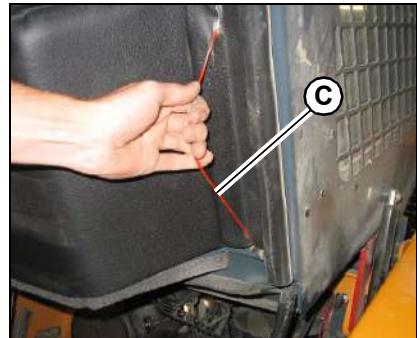

Figure 90 – ROPS/FOPS Lock Mechanism Release
1. Lift the ROPS/FOPS slightly while pulling lock mechanism release (C, Figure 90) toward the front.